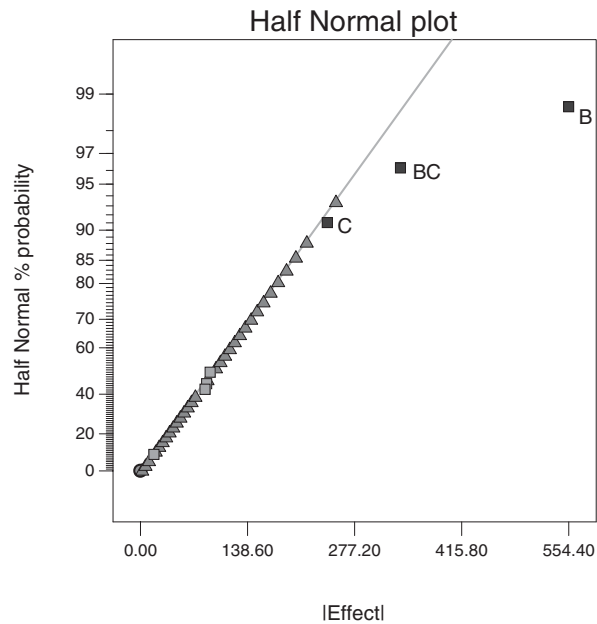
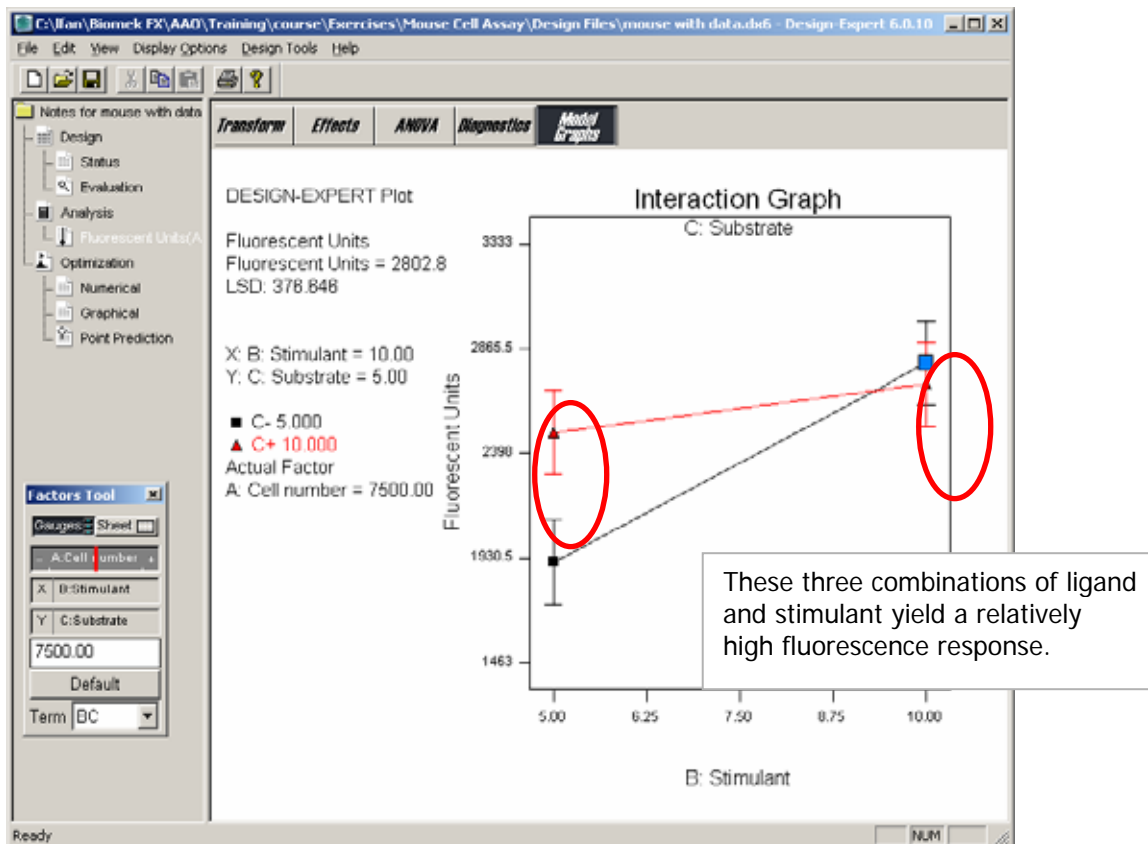

Figure 6: Half-normal plot of effects used to select significant effects – the “outliers” on the graph.
Figure 7: Interaction graph shows the combinations of stimulant and ligand that yield the best fluorescent values.
The analysis of a two-level factorial design such as this involves the use of a tool called a half-normal plot of effects (Figure 6). Any statistically significant factors are easily revealed as outliers on this plot. This case study revealed a statistically significant interaction between the amount of stimulant (B) and the amount of ligand (C). After generating the appropriate analysis of variance as confirmation of the effects plot, model graphs were generated to show the final results (Figure 7). This interaction graph reveals that the experimenter should avoid the combination “B-, C-“ which causes a significant reduction in fluorescence. The other combinations are acceptable.